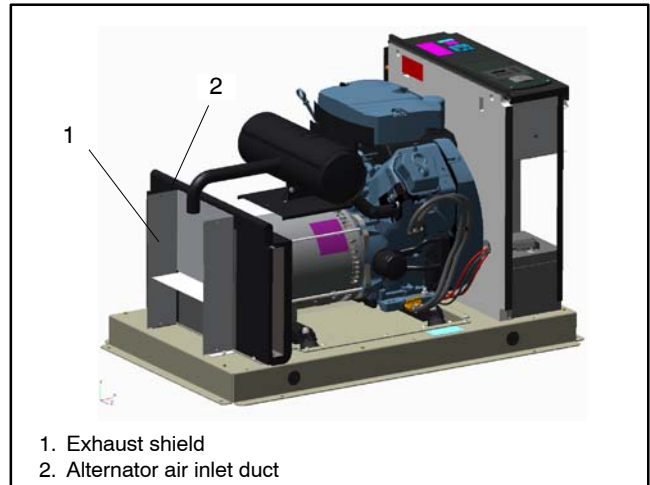

Figure 7-18 Shield and Alternator Air Inlet Duct
16. Remove the exhaust shield and alternator air inlet duct. See Figure 7-18.